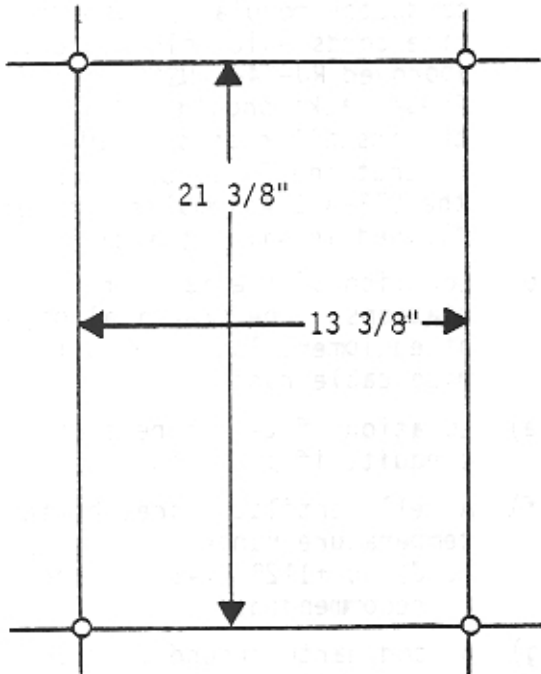

Figure 1
6.05 On the surface to which the KSU is to be mounted, locate the 4 points which correspond to the keyhole type mounting holes in the back panel of the KSU assembly. Figure 1 provides the dimensions between mounting hole centers for the KSU.